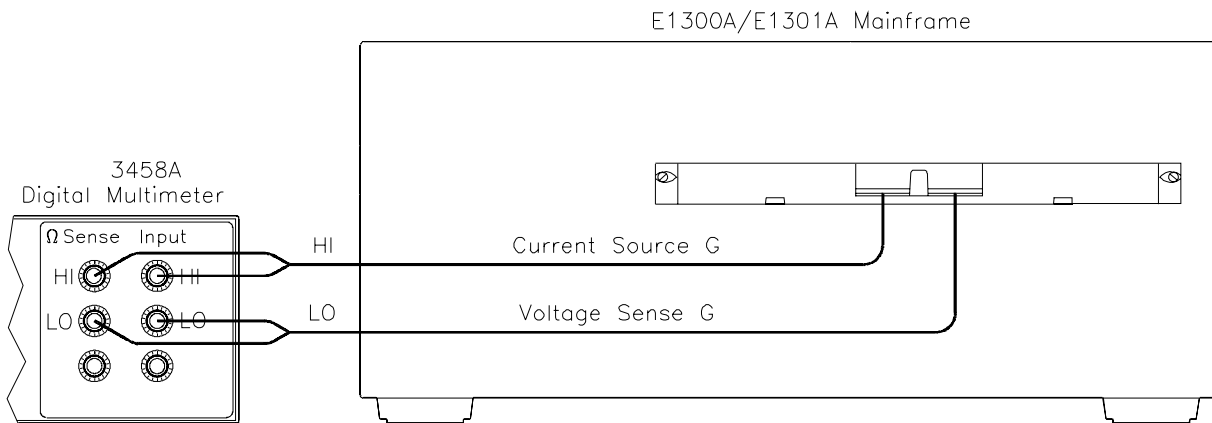

Figure 2-8. Ch 93 GU Measurement Connections
- Connect DMM leads as shown in Figure 2-8